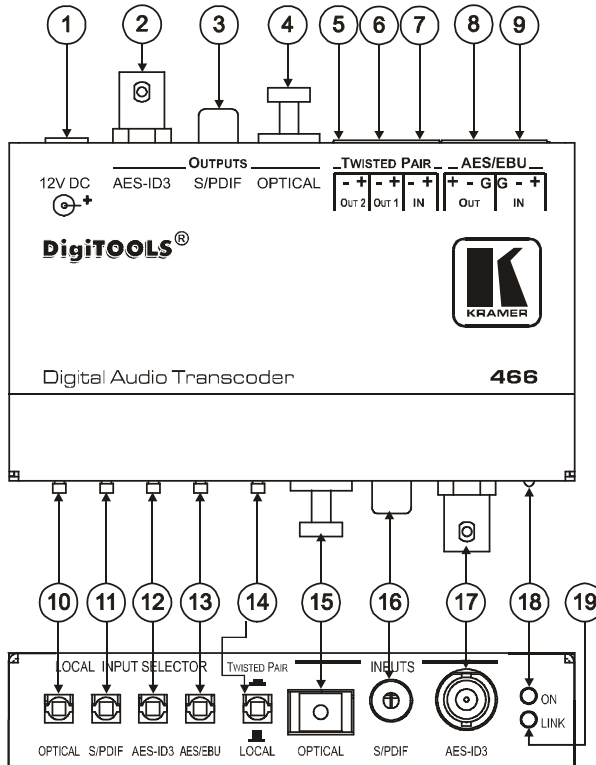
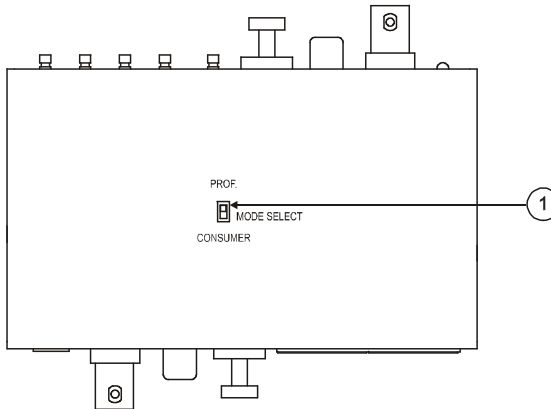
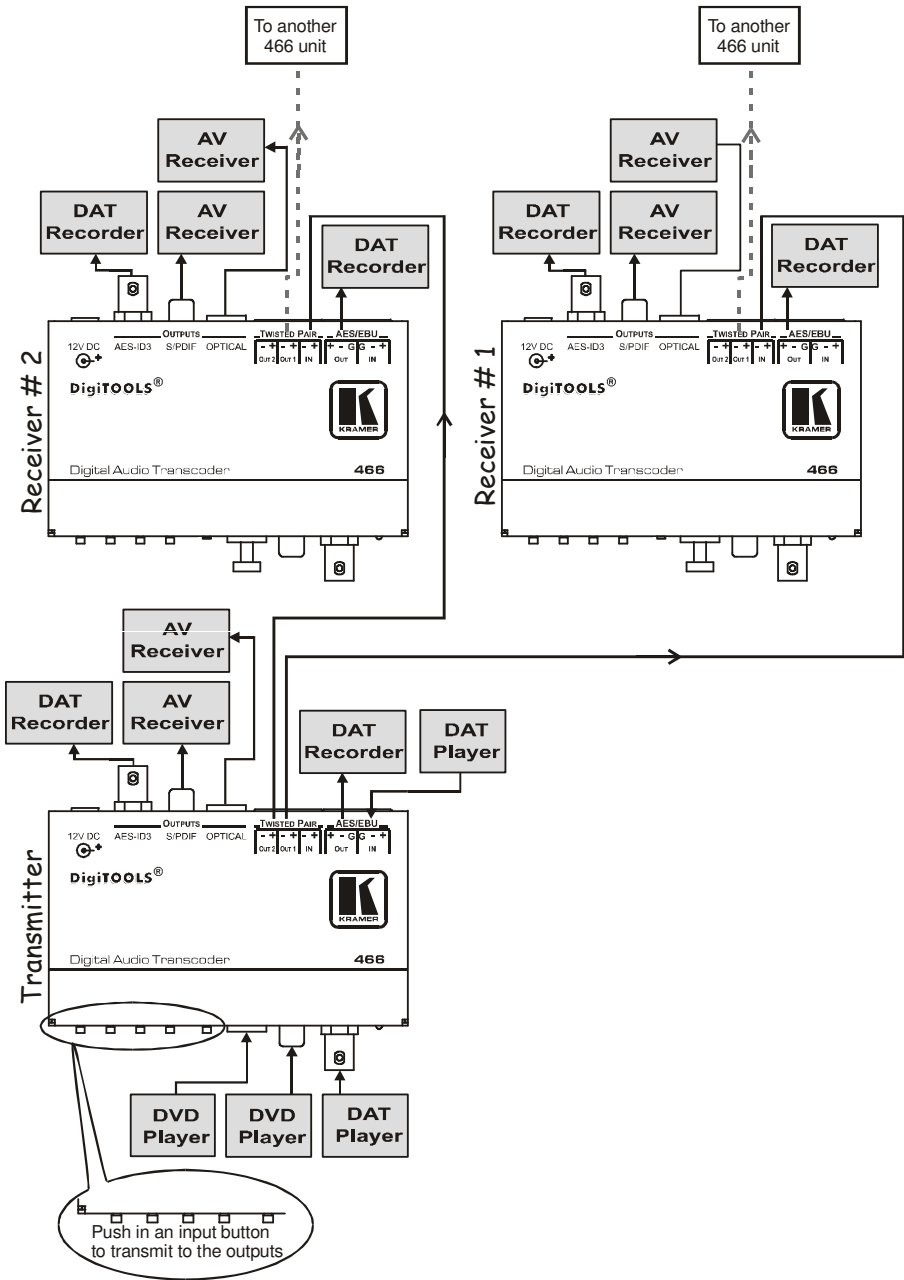

Figure 1: 466 Digital Audio Transcoder
Figure 2: 466 Digital Audio Transcoder Underside Mode Selection Switch
Figure 4: Extending the Range with the 466 Digital Audio Transcoder
Figure 1 and Table 1 define the **466** *Digital Audio Transcoder*, Figure 2 and Table 2 define the underside features:
1 See Figure 4
5. Set the MODE SELECT switch button to PROF. or CONSUMER, as required (see Figure 2).
To use several machines¹, as illustrated in Figure 4, do the following²:
1. Connect the first **466** unit (the Transmitter³ in Figure 4) as described in section 4.
2. Connect Receiver⁴ # 1 (in Figure 4):
- Connect the outputs, as described in section 4 (numbered item 2)
- Set the MODE SELECT switch button to PROF. or CONSUMER, as required (see Figure 2)
3. Connect Receiver⁴ # 2 (in Figure 4):
- Set the MODE SELECT switch button on each **466** unit to PROF. or CONSUMER, as required (see Figure 2)
4. Set the MODE SELECT switch button on each **466** unit to PROF. or CONSUMER, as required (see Figure 2)